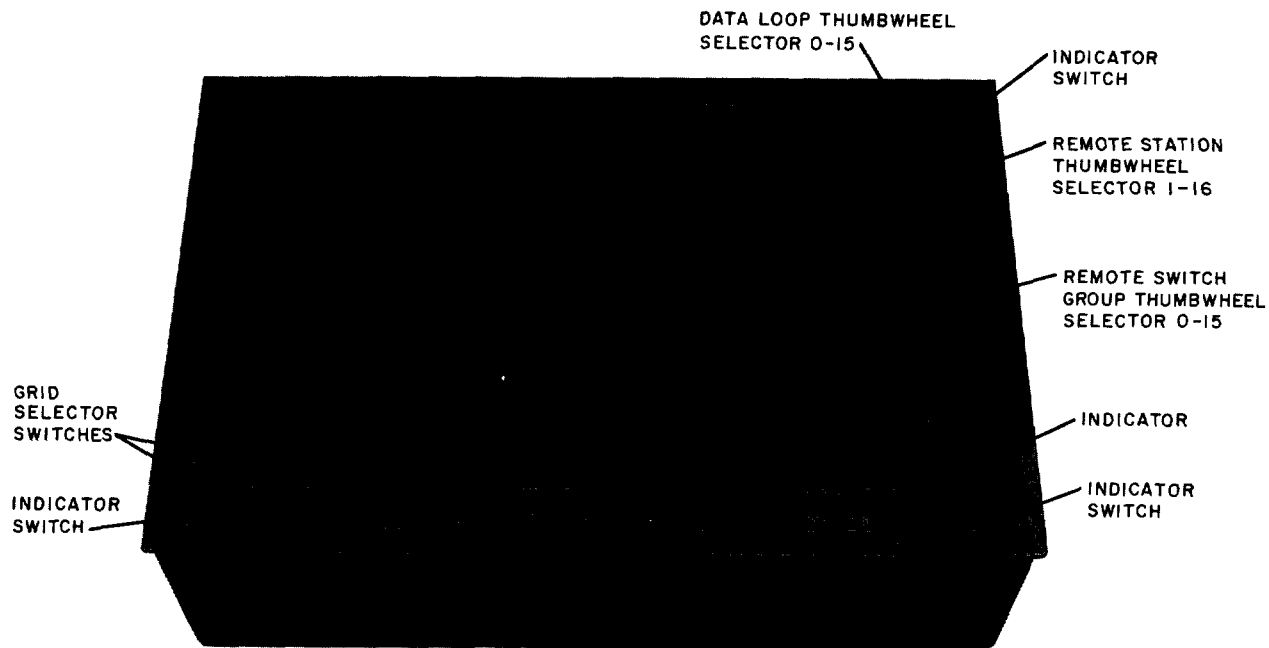

Fig. 4—Remote Switch Panel
1.07 The remote switch panel (Fig. 4) is used to manually select a remote station and to send a switching command to that station. Each switch command is displayed on the remote switching panel before being transmitted.